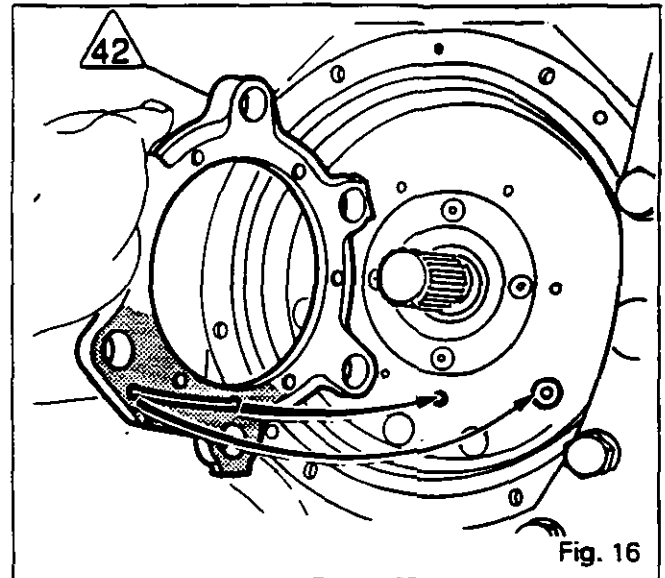
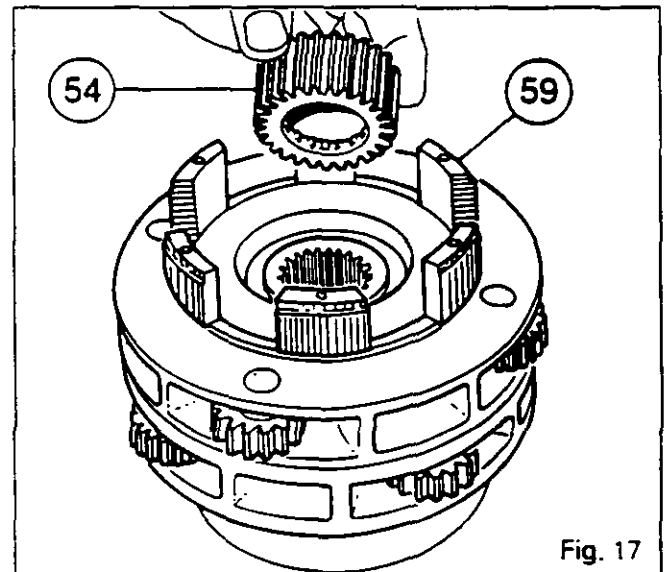

Fig. 16
Fig. 17
48. Coat the seal mating surface of the brake housing (42) with a sealing compound in the area of the lubrication passage (Fig.16).
49. Fit the input unit like it was during the dismantling. Coat the screws (43) with Loctite 241 and tighten them to a torque of 29 - 37 Nm.
50. To gain access to the bolts (46), turn over the planetary carriers. Place the secondary planetary (61), the housing (59) and the splined hub (54) with the internal splines facing downwards (Fig.17). Install the rear discs (50), the driven plates (48) and the pressure plate (45), the Belleville spring (52) as Fig.1, then the cover (47).